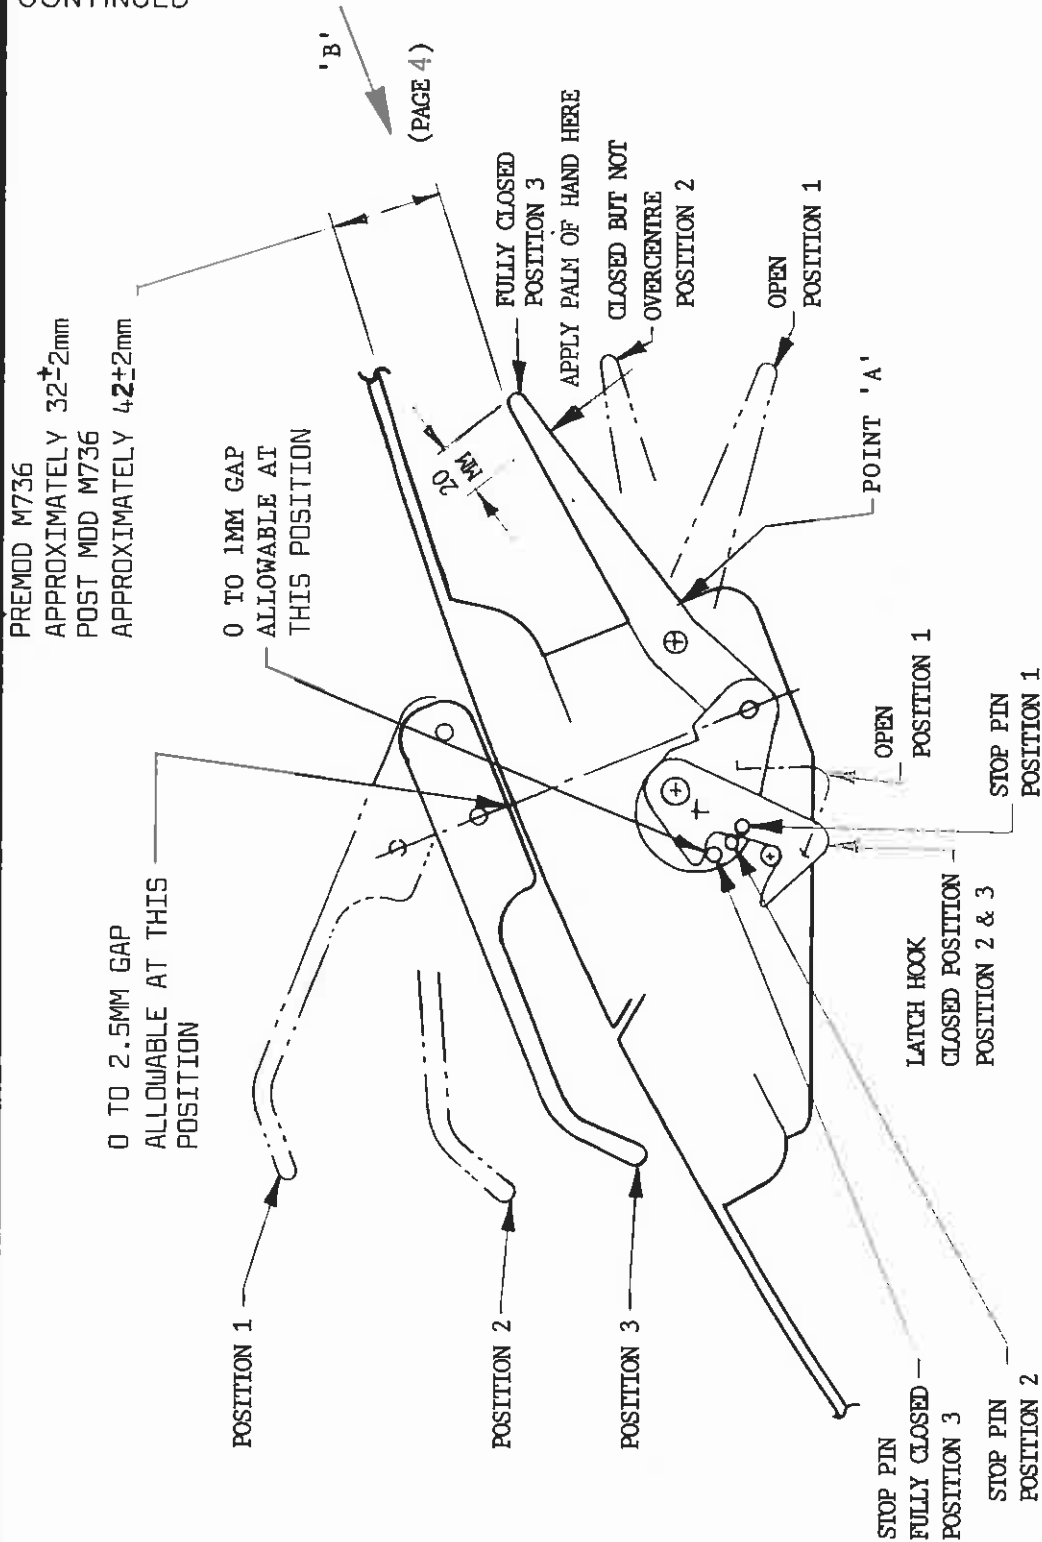
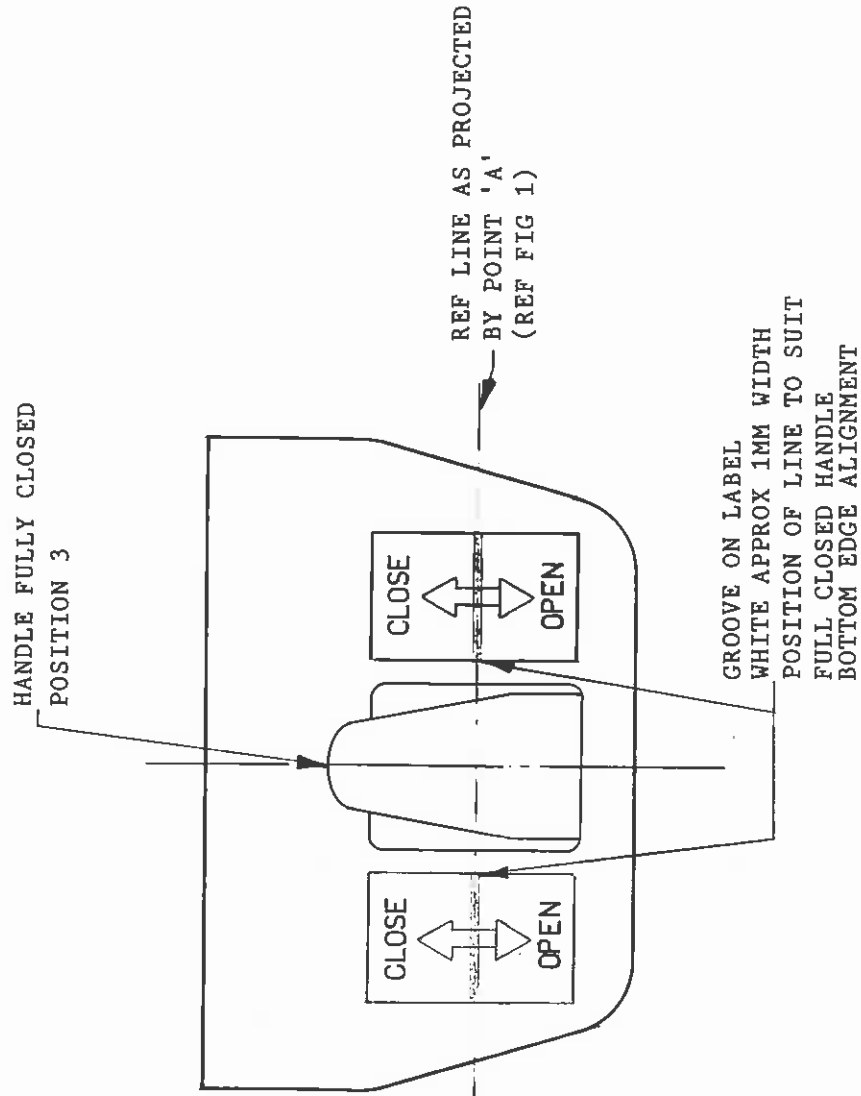

Fig 1
FIG 2
High Rise Canopy Mod M736 dimension added to Fig. 1.
Fig. 1 page 2 shows 3 positions of the canopy mechanism:
- (ii) Close canopy fully. Ensure internal handle is in its correct position and external handle is in its correct position, ie touching bush or no more than 2.5mm gap. Fig. 1.
- (v) Check closure. By positioning palm of hand at point indicated, ref. Fig. 1, push up latch handle, which should close with reasonable resistance but without using excessive force.
- (viii) When handle is fully closed, ie meets requirements of Fig. 1, mark a white line across both labels ref. Fig. 2 on line with handle lower surface (ie coincident with Point 'A' ref Fig. 1 & 2. The line may be obtained by running a hacksaw across both labels; a) deep enough to reveal white of label material or b) if base material is red, deep enough to hold white fill in wax, ie 0.25mm to 0.5mm.
VIEW ON ARROW 'B' (REF FIG 1)